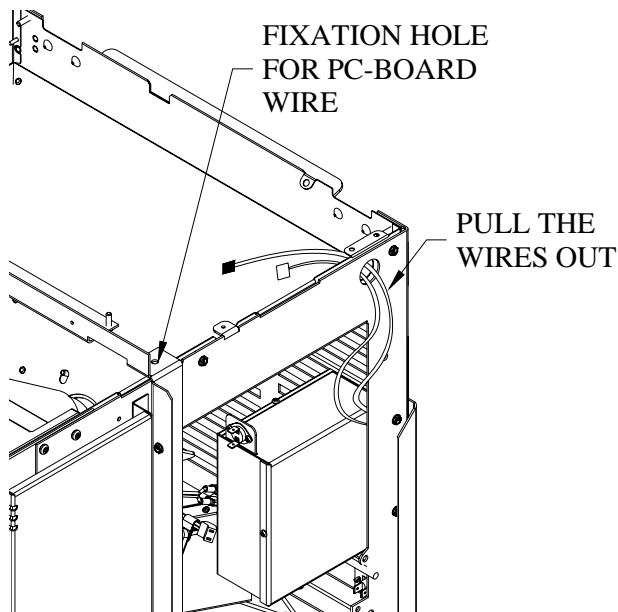
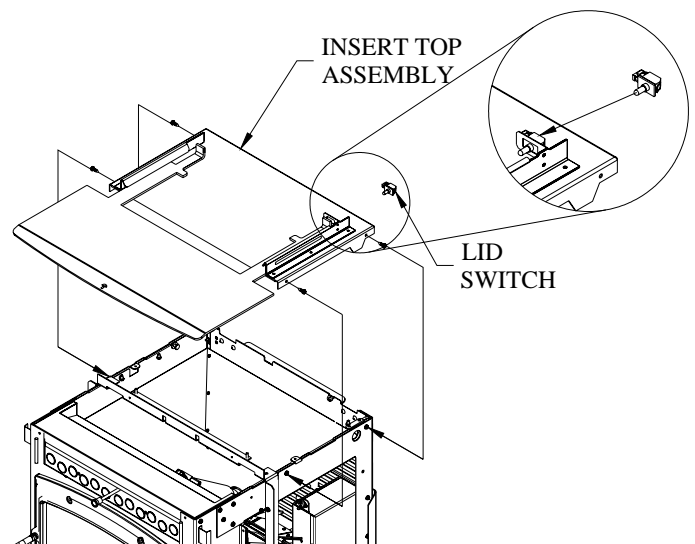

Figure 26
Figure 27
- 2- Pull out the lead wires(Figure 26).Secure the top assembly with the 4 screws(Figure 27) and insert the lid switch in the bracket at the rear of the right slide. Plug the white connector to the lid switch.
- 3- Run the wire with the black connector towards the front and secure it using the wire straps and fixation hole(Figure 26)